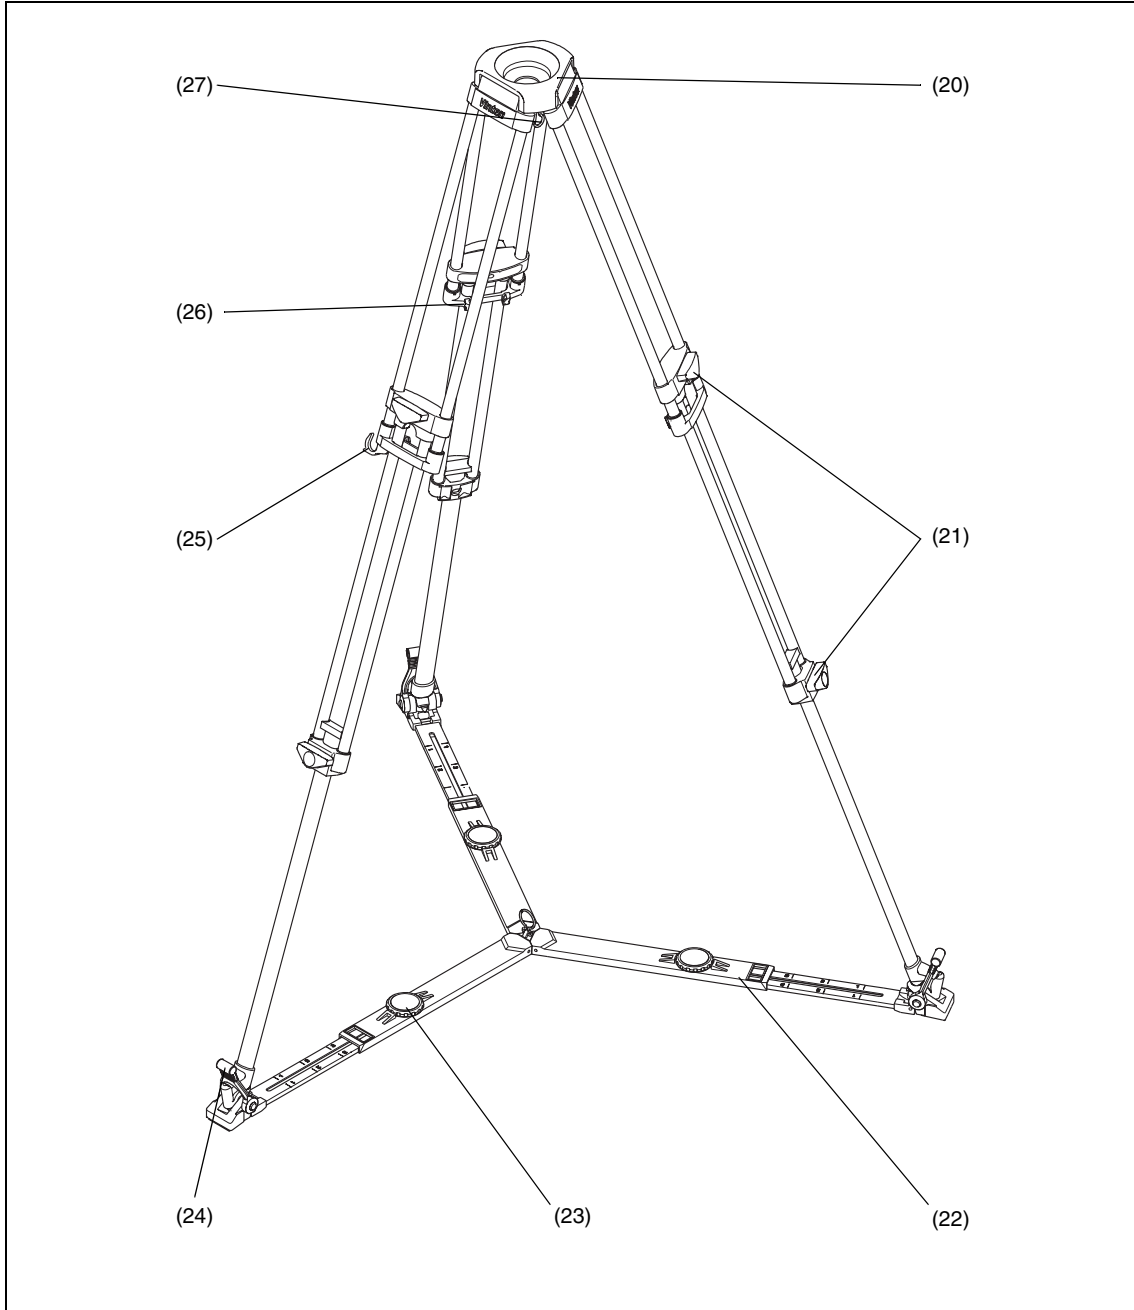
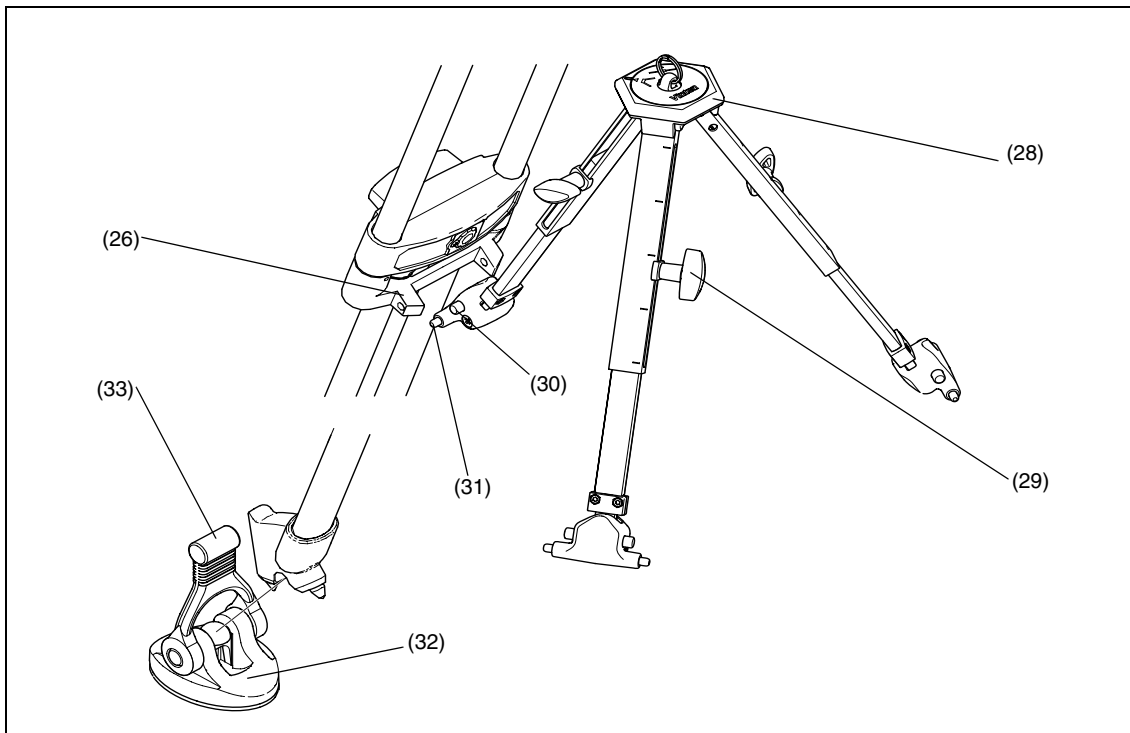

Fig 2 Pozi-Loc Tripod and Floor Spreader
Fig 3 Pozi-Loc Tripod and Mid-level Spreader
The Pozi-Loc two-stage tripod (Fig 2) has aluminium legs and a 75 mm levelling bowl (20). It is fitted with the highly-efficient Pozi-Loc leg clamp (21), which provides quick set-up and easy adjustment.
Depending on which PRO-6^{HDV} system was purchased, the tripod is supplied with either a floor spreader (Fig 2) or a mid-level spreader (Fig 3). Both tripod spreaders increase the rigidity of the tripod.
The PRO-6 HDVF system utilizes a floor spreader (Fig 2) which, being flexible, compensates for uneven ground, protects floors and carpets and prevents the tripod legs sinking into soft ground. It should be used at all times.
The PRO-6 HDVM system utilizes a mid-level spreader (Fig 3) which fastens to the attachment points (26). There are two spread settings, controlled by a knob (28), and the arm lengths can be adjusted using the extension clamps (29) to compensate for uneven ground. A set of three feet (32) are also supplied with this system to protect floors and carpets and prevents the tripod sinking into soft ground. The feet are secured to the tripod by rubber straps (33).
To install the floor spreader (Fig 2):
To install the mid-level spreader (Fig 3):